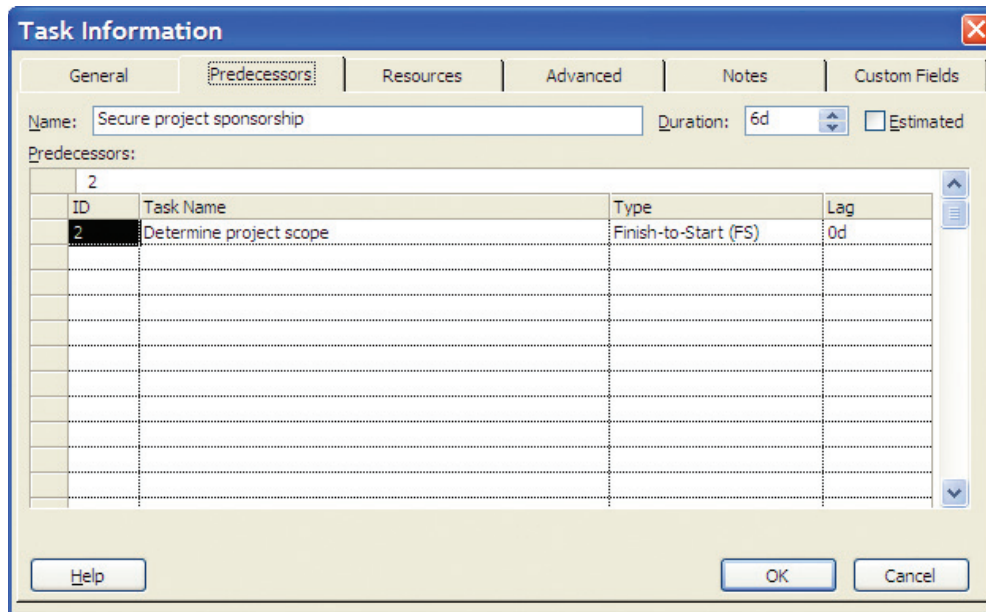

FIGURE T12.17
3. Click the **Predecessors** tab (see Figure T12.17).
6. Click the Type field, and then select the type of task dependency: **Finish-to-Start (FS)**, **Start-to-Start (SS)**, **Finish-to-Finish (FF)**, **Start-to-Finish (SF)**, or **None**.